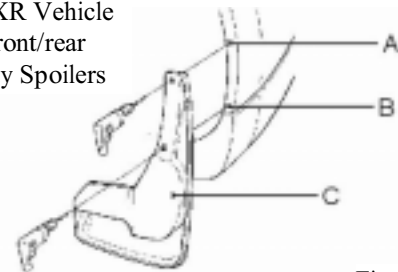

Fig. F-5
-  6. Mount mudguard on bumper body panel and using mudguard as a template drill 6 mm holes in locations A and B while holding part tight against body. (Fig F-5)